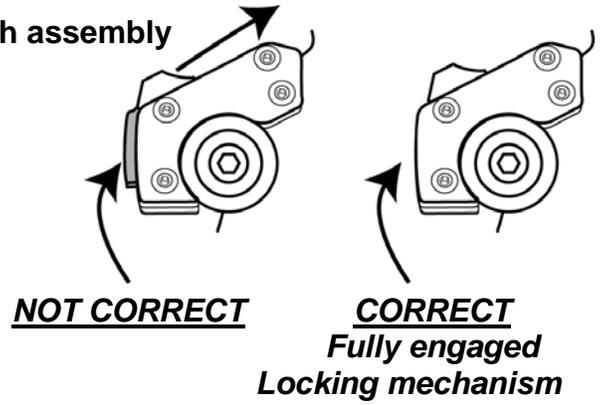

Fig. 2
3. Install the two mounting plates onto the fairing using the nuts and washers supplied. The small tab goes to the bottom of the fairing, the big one goes to the top. The tabs point out from the headlight (See Fig 2).
4. Slip the mounting plates and fairing onto the fork clamps, (Fig. 3) while guiding the bezel over the headlight (Fig. 2) and under the brow. Secure the left and right side locking mechanism.